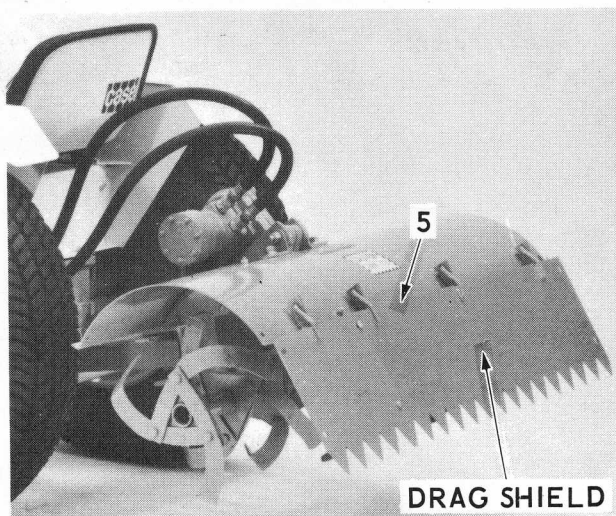

Figure 17. Tiller Assembled to Sleeve Hitch and Hydraulic PTO Kit
5. Connect the drag shields to the mounting lugs on the tine shields as shown in Figure 17 and secure with the two plain washers and cotter pins.